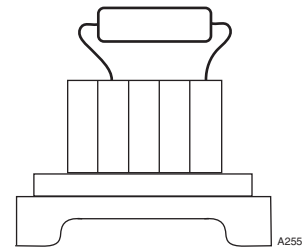

Figure 1—Resistor Installation
3. Bend the leads and install the EOL or SCM resistor as shown in Figure 1.